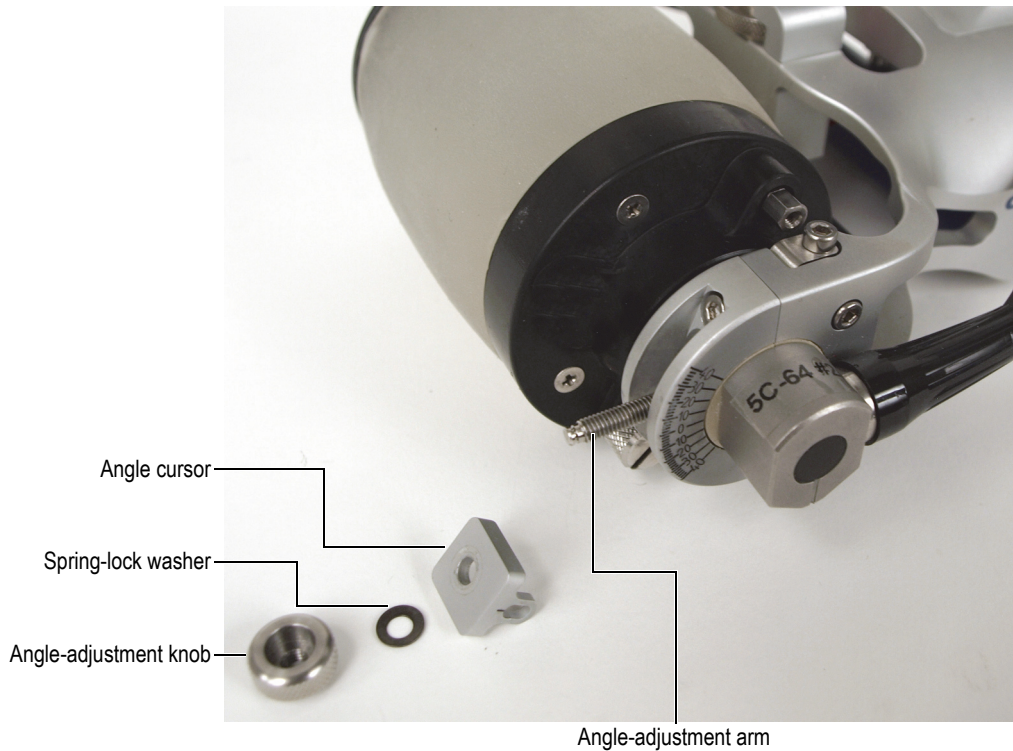

Figure 6-32 Installing the probe's angle-adjustment components
6. Install the angle cursor, the spring-lock washer, and the angle-adjustment knob on the angle-adjustment arm, which is on the probe-cable side of the RollerFORM (Figure 6-32 on page 111).